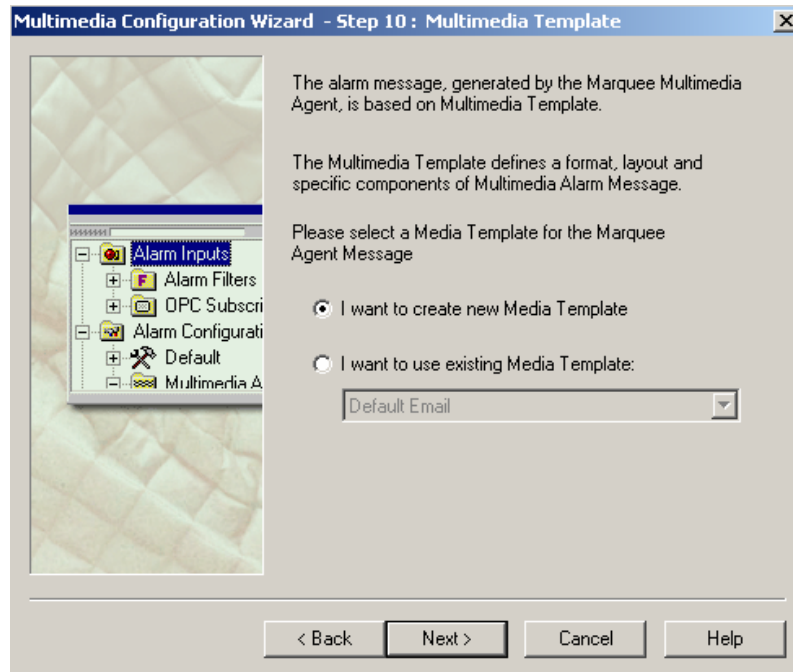

Figure 3.11. Step 10: Selecting a Media Template for the Multimedia Agent
- The next step is to create or specify a media template for the multimedia agent, as shown in **Figure 3.11**. A **media template** is simply a way of specifying exactly what information is to be sent to the agent. To create a new template, select the appropriate option and click **Next**. To use an existing template, select an existing template from the provided drop-down list.